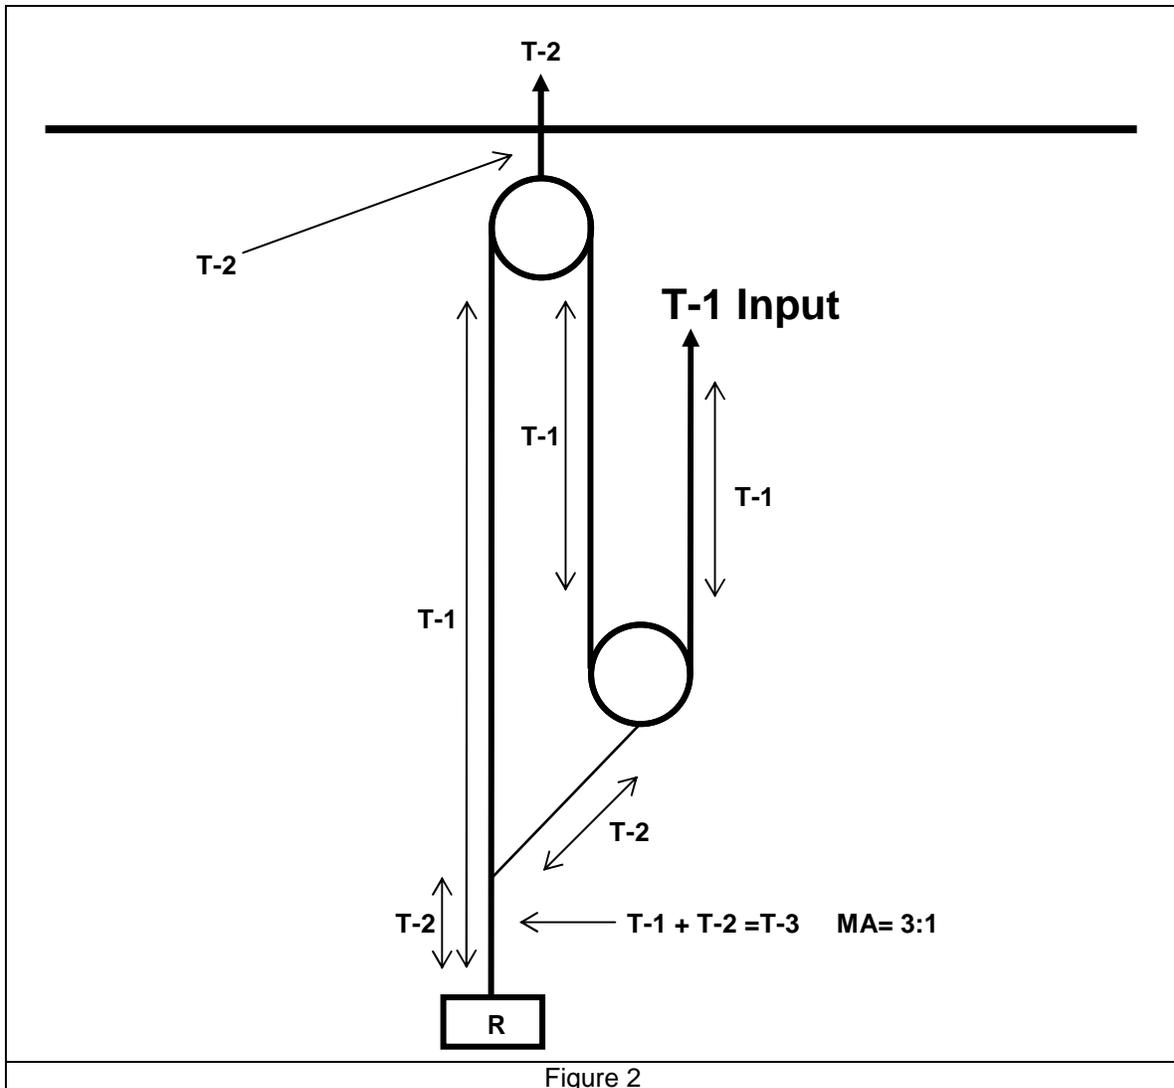

Figure 2: The Simple 3:1 System Rigged with a Prusik
- Fig. 4 illustrates the same 3:1 MA system diagrammed in Figure 2 with the addition of an optional directional